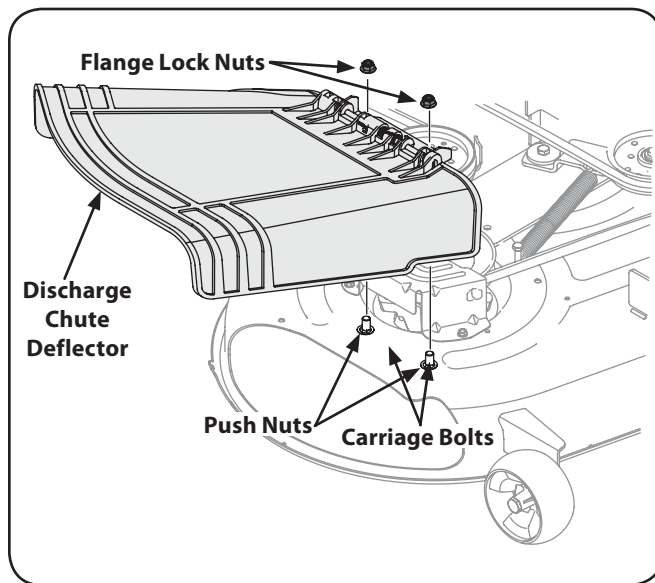

Figure 3-3
3. Install the discharge chute deflector using the carriage bolts, push nuts and flange lock nuts as shown in Fig. 3-3 and securely tighten the hardware.